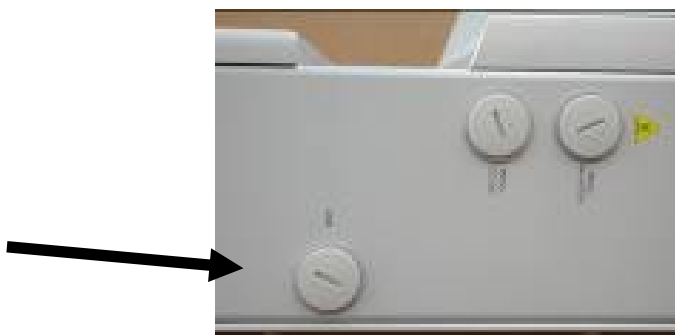

Fig.16 - USB port location
- Data transmission via a USB cable. This type of connection is typically used when monitoring a single inverter and for maintenance purposes. To connect the USB cable, remove the waterproof plug at the bottom end of the inverter's right wall (Fig.16).